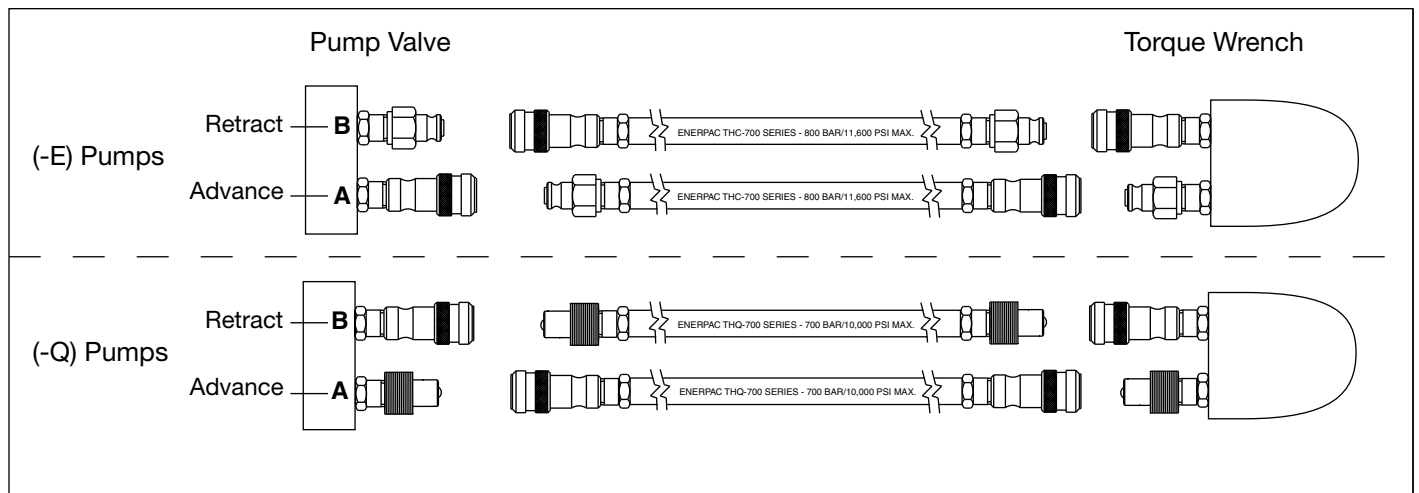

Figure 6, Hose Details
Connect hoses as shown in Figure 6.
2. (-Q) Pump type for Enerpac S and W torque wrenches and other brands: Use hoses marked "Enerpac THQ-700 series - 700 bar/10,000 psi max." Couplers must be polarized per Figure 6 for correct wrench operation. Ensure couplers are fully engaged and tightened before operating. Partial coupler engagement will prevent proper wrench operation.